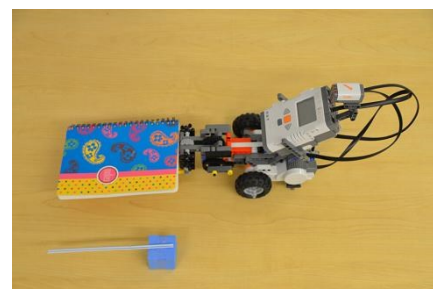

Figure 2
- Drives the robot alongside the unsharpened pencil. See Figure 2